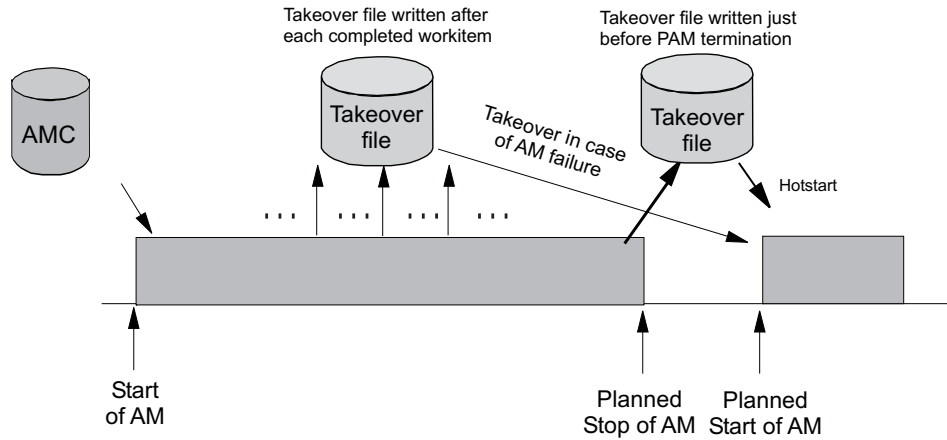

Figure 6. Using Only the Takeover File for Status Backup
Figure 6 on page 42 illustrates the timeline from the start of the automation manager (AM) through to its termination for the following cases: